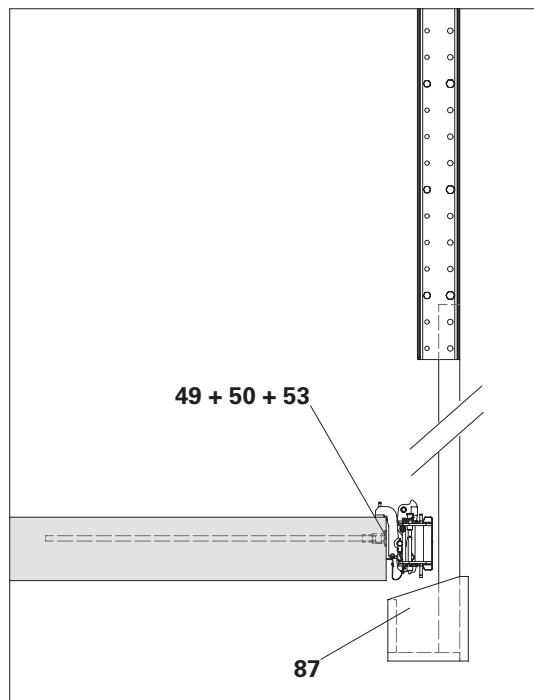

Fig. B4.04
- ⇒ Attach a trailing catching box (87) to the climbing unit. (Fig. B4.04)